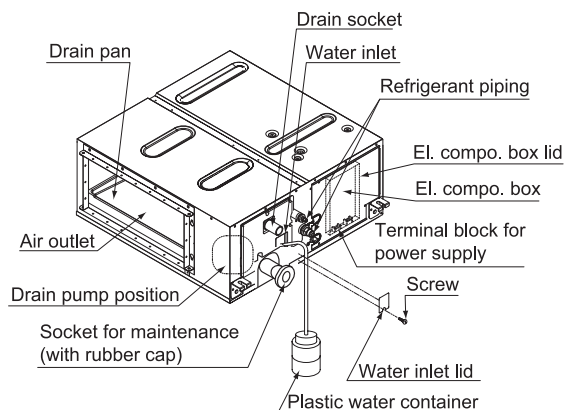

Fig. 15
- Gradually pour 1 litre of water from the inspection port at the bottom of the drain socket on the left side of the drain pan giving caution to avoid splashing water on the electric components such as drain pump and confirm drainage by operating the indoor unit under cooling mode according to 10. FIELD SETTING. (Refer to Fig. 15)
- Gradually pour 1 litre of water from the air outlet on the left side of the drain socket into the drain pan giving caution to avoid splashing water on the electric components such as drain pump. (Refer to Fig. 15)